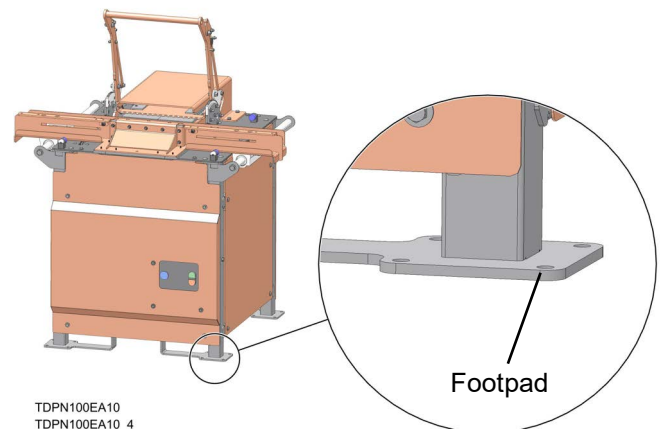

FIG. 3-2
3. Anchor machine to flat level floor using 3/8" hardware (not included) in each of four footpads. See FIG. 3-2.